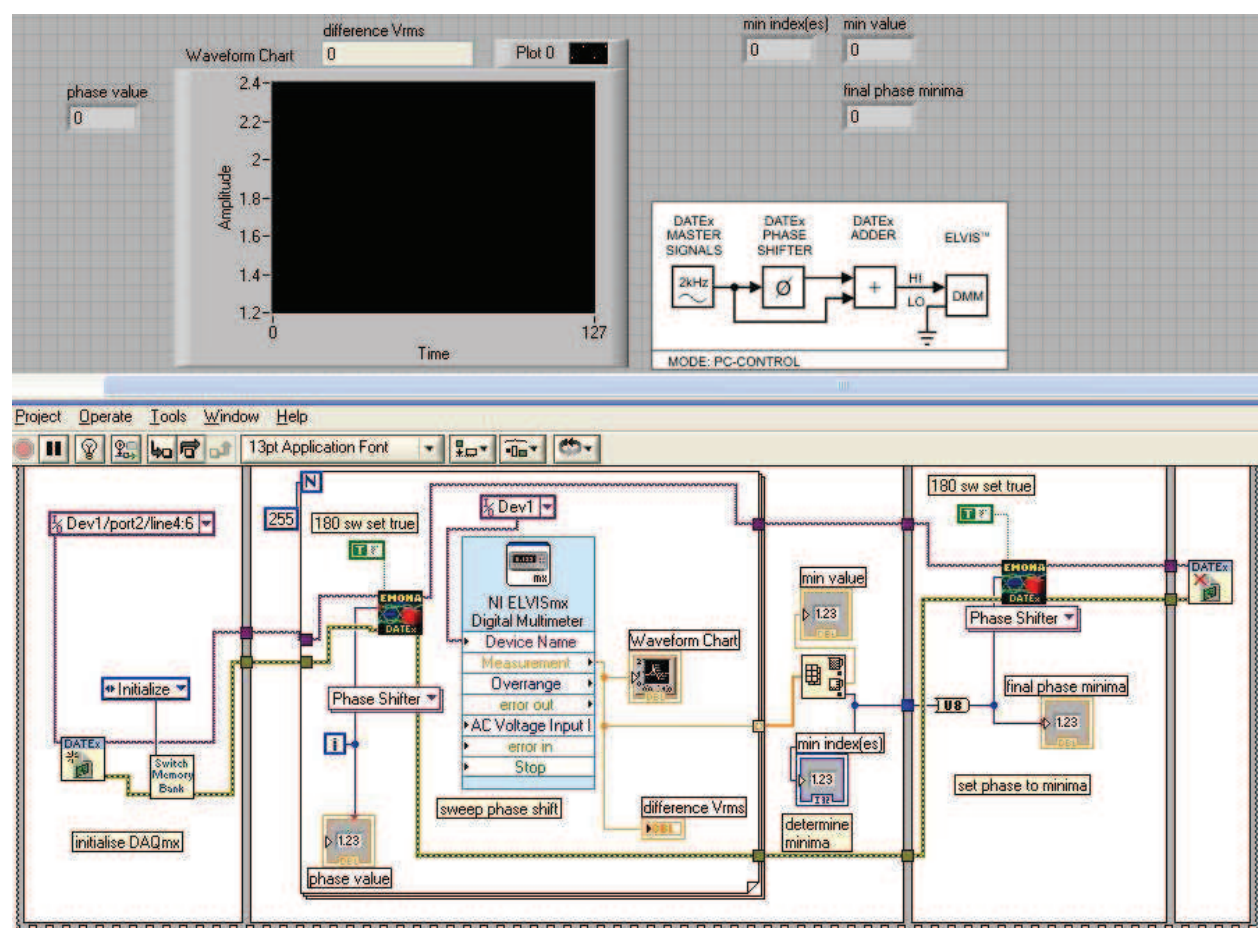

Figure 33: Screenshot of "auto null using PS" VI supplied on DATEx CD in "low level examples" directory.
1. Use patching cords to wire up DATEx blocks according to the wiring diagram in Figure 33.